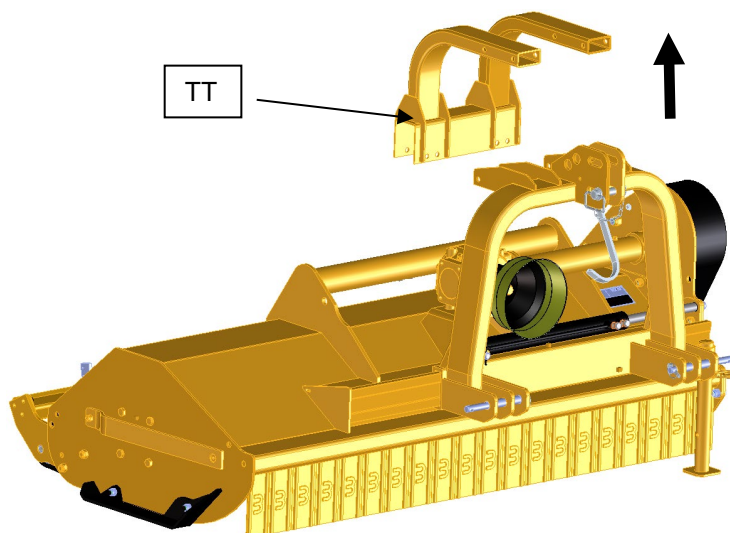

Figure 51
3. Pull out the tie rod TT (figure 51);